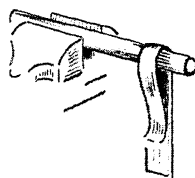

FIG. 5
4. Bend the metal, as shown in Fig. 5.